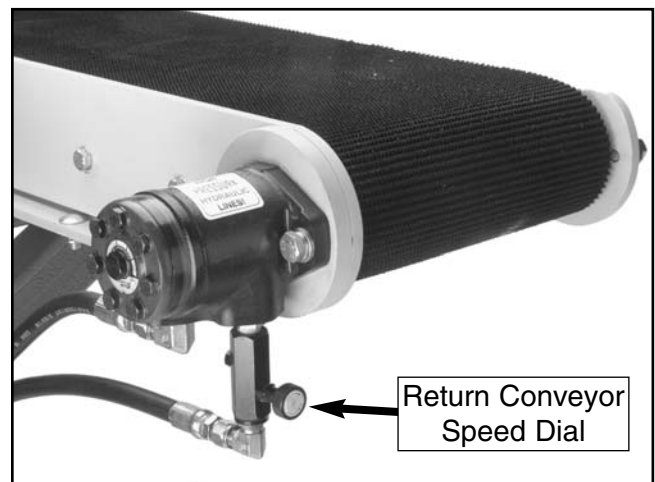

Figure 25. Return conveyor speed dial.
2. With the saw running, turn the return conveyor speed dial (**Figure 25**) counter-clockwise to start the return conveyor.